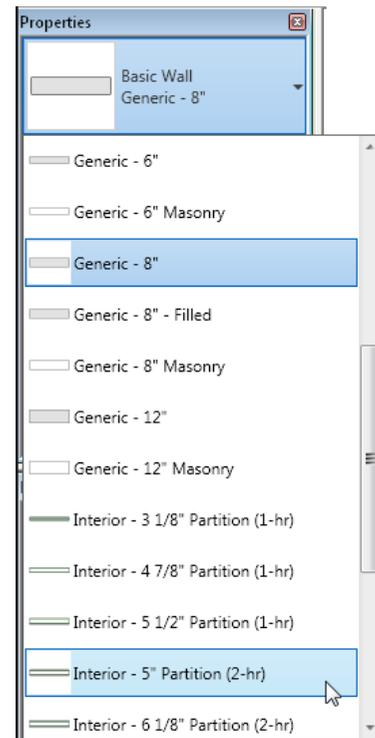

Figure 3-55 Selecting the **Basic Wall: Interior - 5” Partition (2-hr)** wall type
1. On invoking the **Wall: Architectural** tool, the wall instance parameters are displayed in the **Properties** palette. In this palette, select the required option from the **Type Selector** drop-down list, as shown in Figure 3-55.